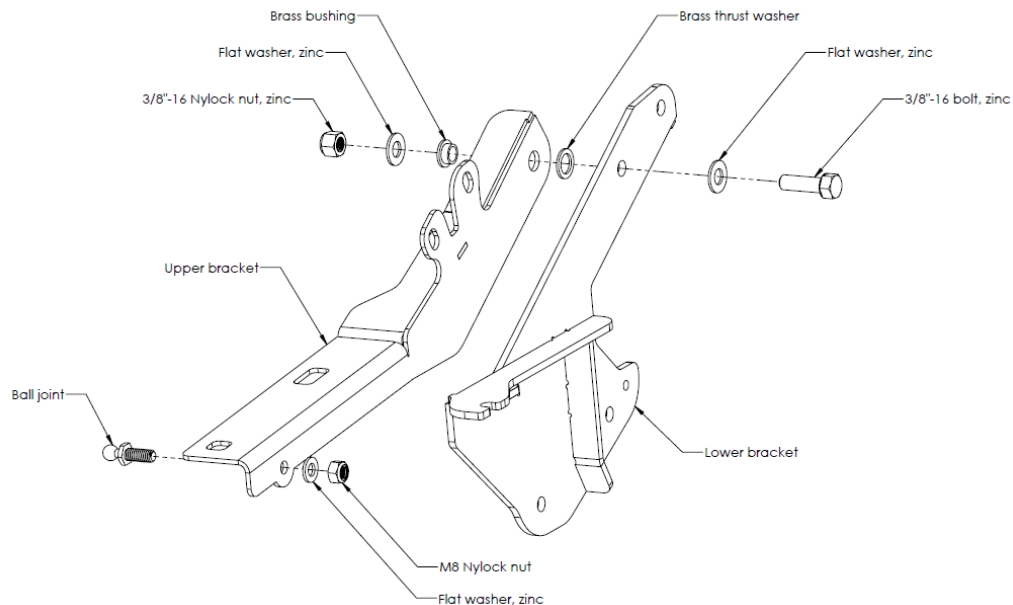

Figure 6
1. Fully assemble and tighten the driver side bracket. First, install the brass bushing into the upper hole in the upper bracket. **(Figure 6)**
2. Stack the 3/8"-16 Nylock nut on the washer and place over the brass bushing. Add the brass thrust washer, followed by the lower bracket, flat washer and 3/8"-16 bolt. Tighten the Nylock nut making sure the thrust washer does not pop out of the brass bushing. **(Figure 6)**
3. Fully assemble and tighten the passenger side opposite of what is shown in **Figure 6**.
10. Using the ball joint, flat washer and M8 Nylock nut from the provided hardware kit, snap the OEM air spring to the ball stud on the upper bracket. (**Figure 6, Figure 10**)